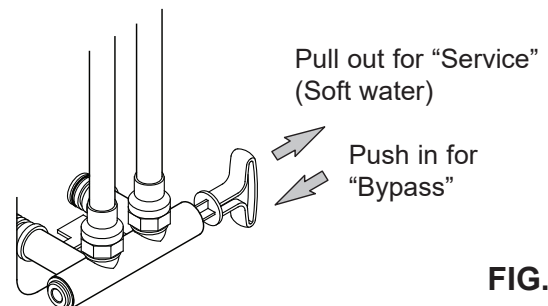
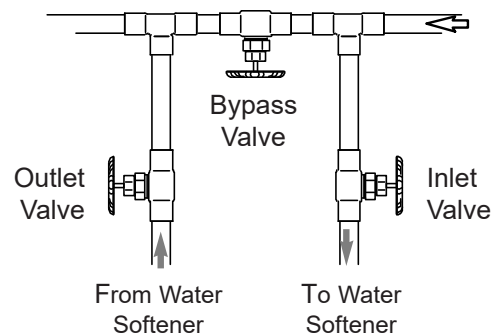

FIG. 7
FIG. 8
Always install either a single bypass valve (provided), as shown in Figure 7, or, if desired, parts for a 3 valve bypass system (not included) can be purchased and assembled, as shown in Figure 8. Bypass valves allow you to turn off the water to the softener for maintenance if needed, but still have water in house pipes.
2. Place the bypass valve (single or 3 valve) into the "bypass" position. See Figures 7 & 8 on Page 7.